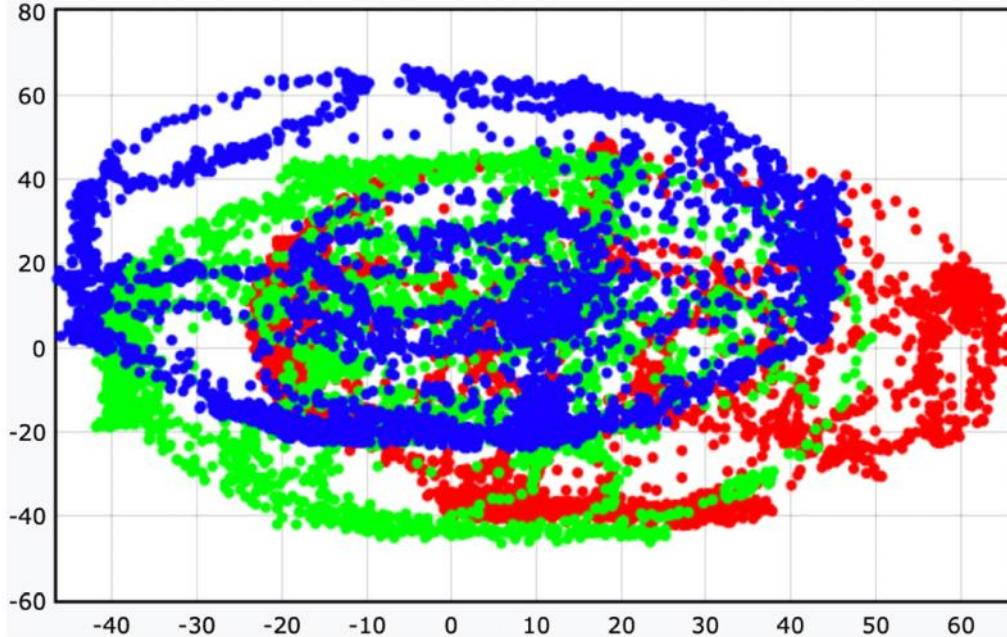

Figure 16.13 – Magnetometer calibration: a good combination
*Figure 16.13 shows how a good collection of data should look, with circles of red, green, and blue. Note that there are outliers due to waving the robot too close to other magnets—beware of these!*